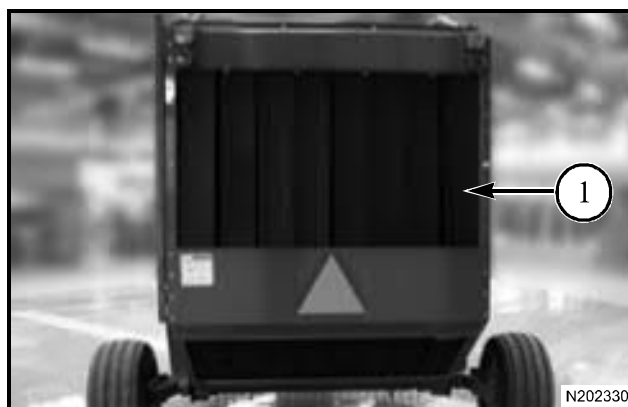

FIG. 7
FIG. 7: The forming belts (1) are made of a high tensile strength, controlled stretch, synthetic fabric bonded to the covering material. The surface pattern on the forming belts helps to roll the bale. See the Specifications section for more information on the forming belts.